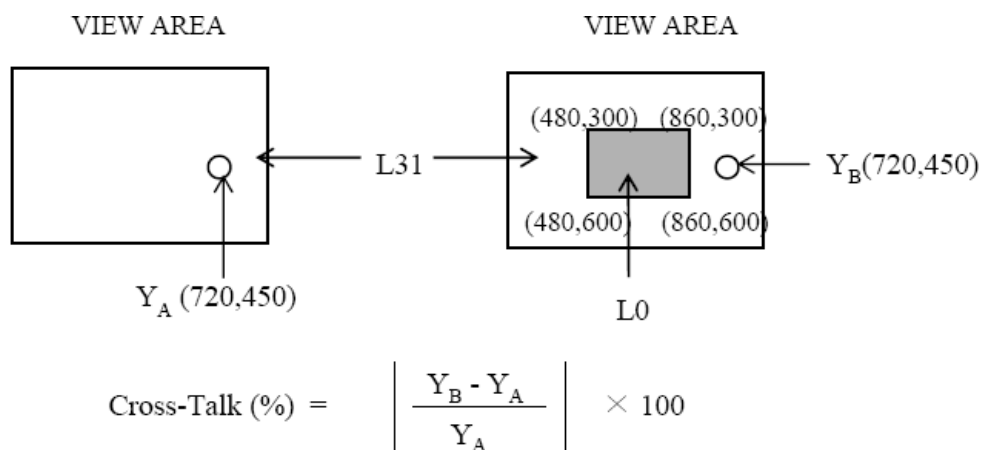

Figure 3: Response Time Testing
- The electro-optical response time measurements shall be made as FIGURE 3 by switching the "data" input signal ON and OFF. The times needed for the luminance to change from 10% to 90% is Td, and 90% to 10% is Tr.